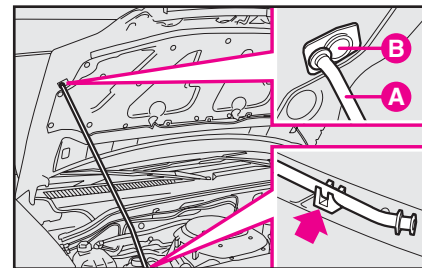

fig. 135
1) Hold the bonnet up with one hand and, with the other, remove rod **A**-fig. 135 from recess **B** and replace it in its clip.